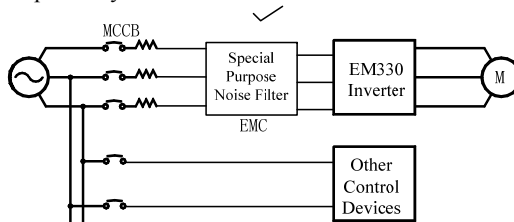
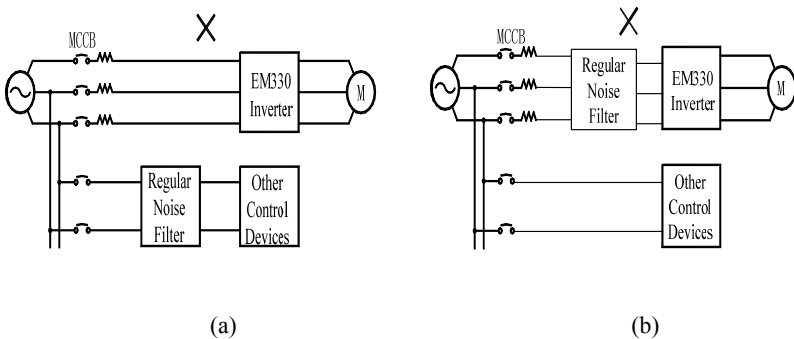

Figure 3-5 Correct Noise Filter Installation
Figure 3-6 Incorrect Noise Filter Installation
- Correct and incorrect noise filter installations as shown in Figure 3-5 and Figure 3-6 respectively.